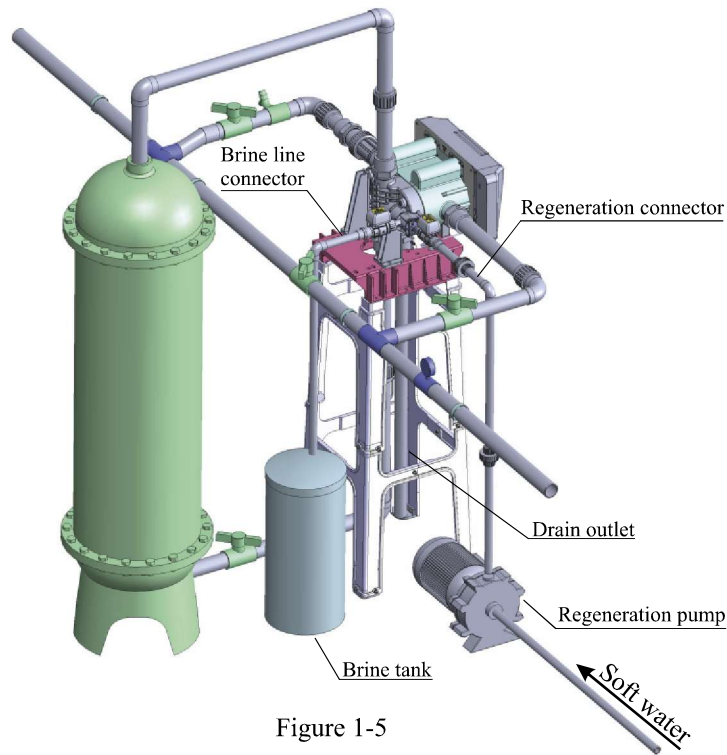

Figure 1-5
④Connect brine tube and regeneration pump tube
- As Figure1-5 shows, use UPVC (DN20) to connect brine valve with brine line connector of control valve.
- As Figure1-5 shows, use UPVC (DN20) to connect the outlet of regeneration pump with the regeneration connector ball valve, then connect the inlet of regeneration pump with softened water.